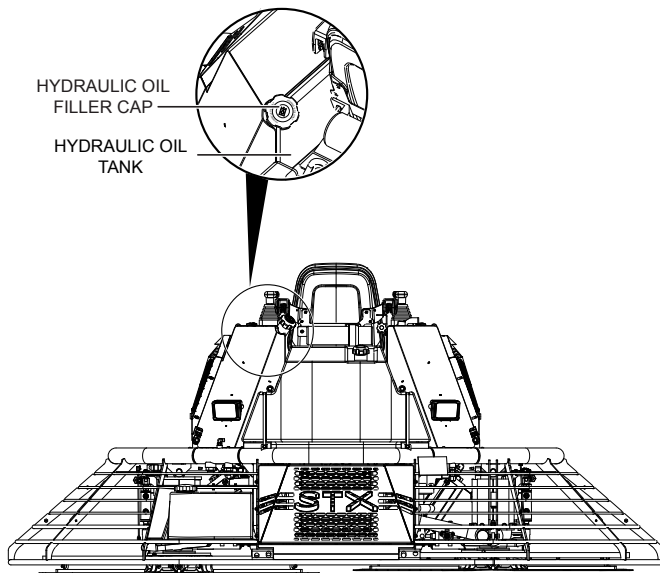

Figure 5. Hydraulic Oil Expansion Tank
2. Visually inspect the hydraulic oil expansion tank (Figure 5). For normal operation the fluid level should be visible when the filler cap is removed.